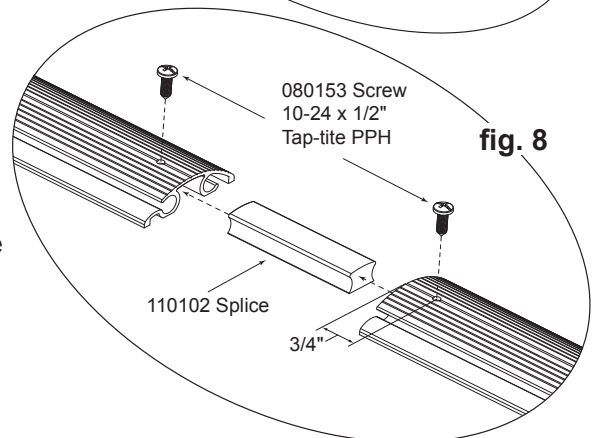

fig. 8
5.2 Install the track splice. (fig. 8)